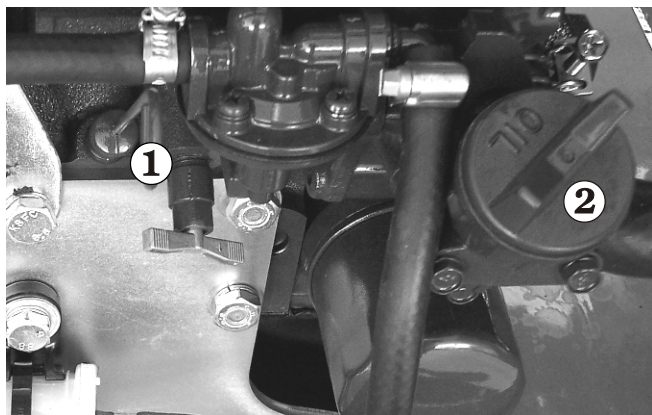

Figure 7.6 - Engine Oil Level
Keep the oil level between the marks on the dipstick ① (see Figure 7.6).
The distance between the top and bottom dipstick marks corresponds to about 1 qt. (one (1) liter). Add oil, if needed at the cap ② (see Figure 7.6), there is an alternative filler cap on top of the engine.